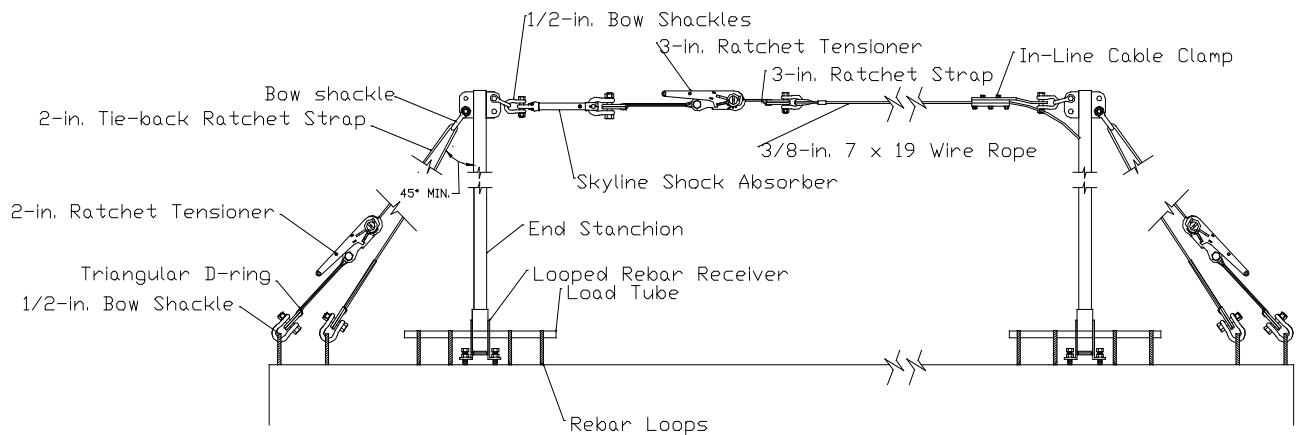

Figure 1b
1. Remove the Receiver Load Tube bolt and Load Tube from the Looped Rebar Receiver (see Figure 1a or Figure 1b for parts identification). Place Receiver between rebar loops. Note: Rebar loops must be Grade 40 or Grade 60 rebar, Size 4 (1/2-in.) or larger.
12. Pass the 2-in. Ratchet Strap up through the 5/8-in. bow shackle that is attached to the end stanchion and then thread it into the mandrel of the Ratchet Tensioner and ratchet until tight (see Figure 1b). Verify that the webbing makes **AT LEAST** one full revolution on the mandrel. If it does not, release the load, pull a couple of inches of strap out, and then retighten to achieve the minimum one full wrap of webbing on the mandrel.
14. Repeat Steps 1 through 8 to install Looped Rebar Receivers with Bypass Stanchions at the correct location as required for your particular horizontal lifeline design. If there are **ANY** questions regarding the design or suitability of a horizontal lifeline in a particular situation, call Reliance Engineering at (303) 424-8650, **BEORE** proceeding with the setup or use of any lifeline.